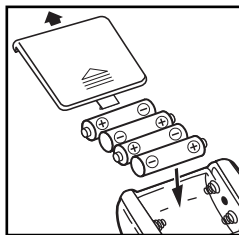

Fig.3
1. Open the cover of the battery compartment and install 4 "AA" size batteries according to polarity marked inside the compartment. Do not use much force to remove the cover of the battery compartment (fig. 3).